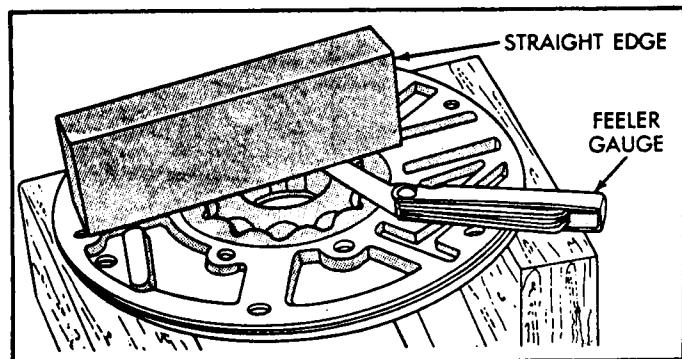

Figure 48
6. Install both pump gears into the pump housing and measure clearance with a feeler gauge and straight edge, as shown in Figure 48. Clearance should be .0015"--.0035".